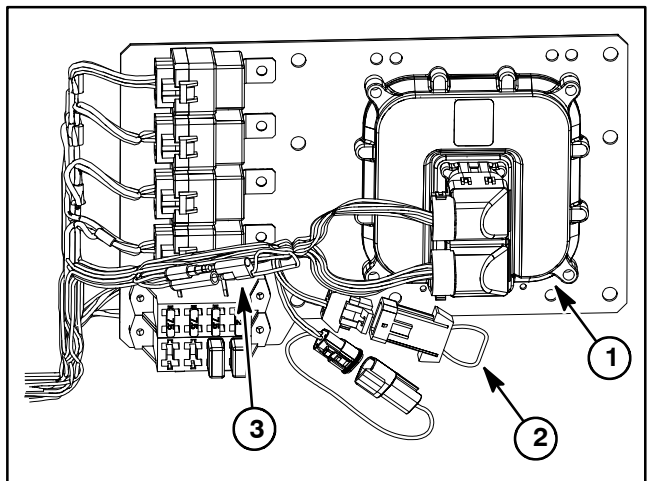

Figure 13
2. Locate Ultra Sonic Boom wire harness communication port and loopback connector (6 pin connector) located near the TEC controller on the mounting plate under the dash panel (Fig. 13). Carefully unplug loopback connector from harness connector.